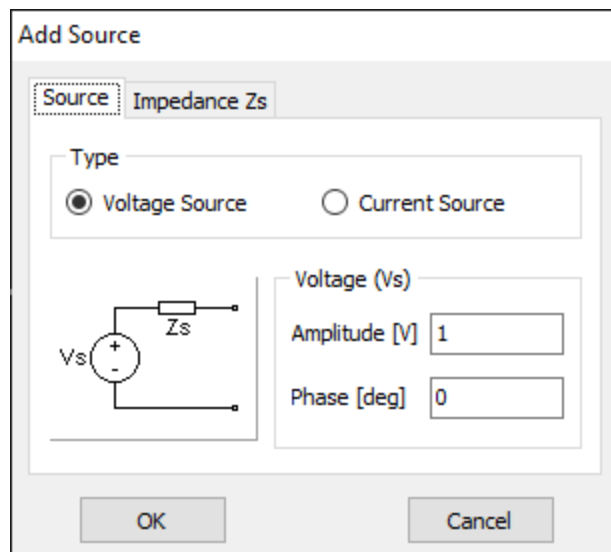

Fig. 2: Dialog box for adding a discrete source to a wire segment.
- Click the **Add Source** button to open the *Add Source* dialog box (**Fig. 2**).